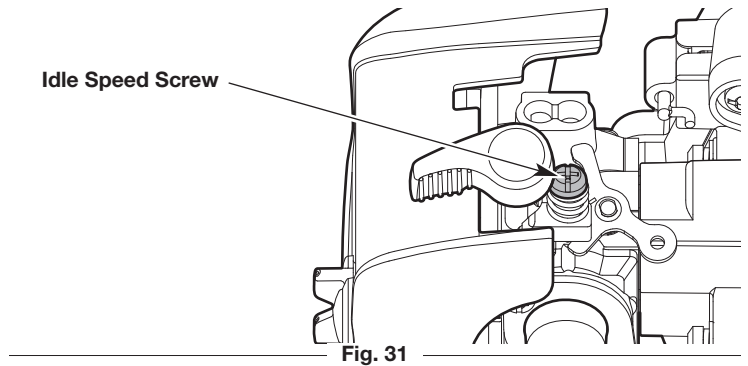

Fig. 31
- If the engine stops, increase the idle speed. Use a small Phillips screwdriver to turn the idle speed screw clockwise, 1/8 of a turn at a time, until the engine idles smoothly (Fig. 31).
- If the cutting head spins when the engine idles, reduce the idle speed. Turn the idle speed screw counterclockwise, 1/8 of a turn at a time, until the cutting head stops moving (Fig. 31).